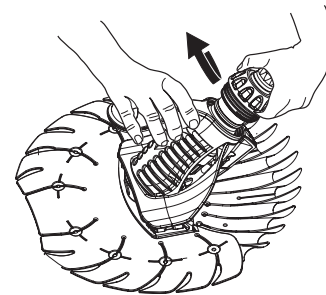

Figure 12
4. Verify the thrust washer is still in place inside the handnut. Insert the engine into cleaner body, slide the handnut over the engine extension tube and tighten (see Figure 12).